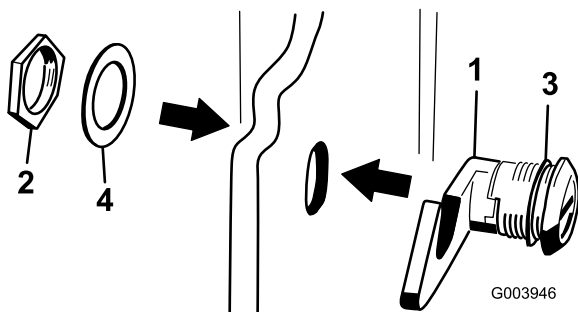

Figure 19
3. Remove the nut from the hood latch assembly (Figure 19).